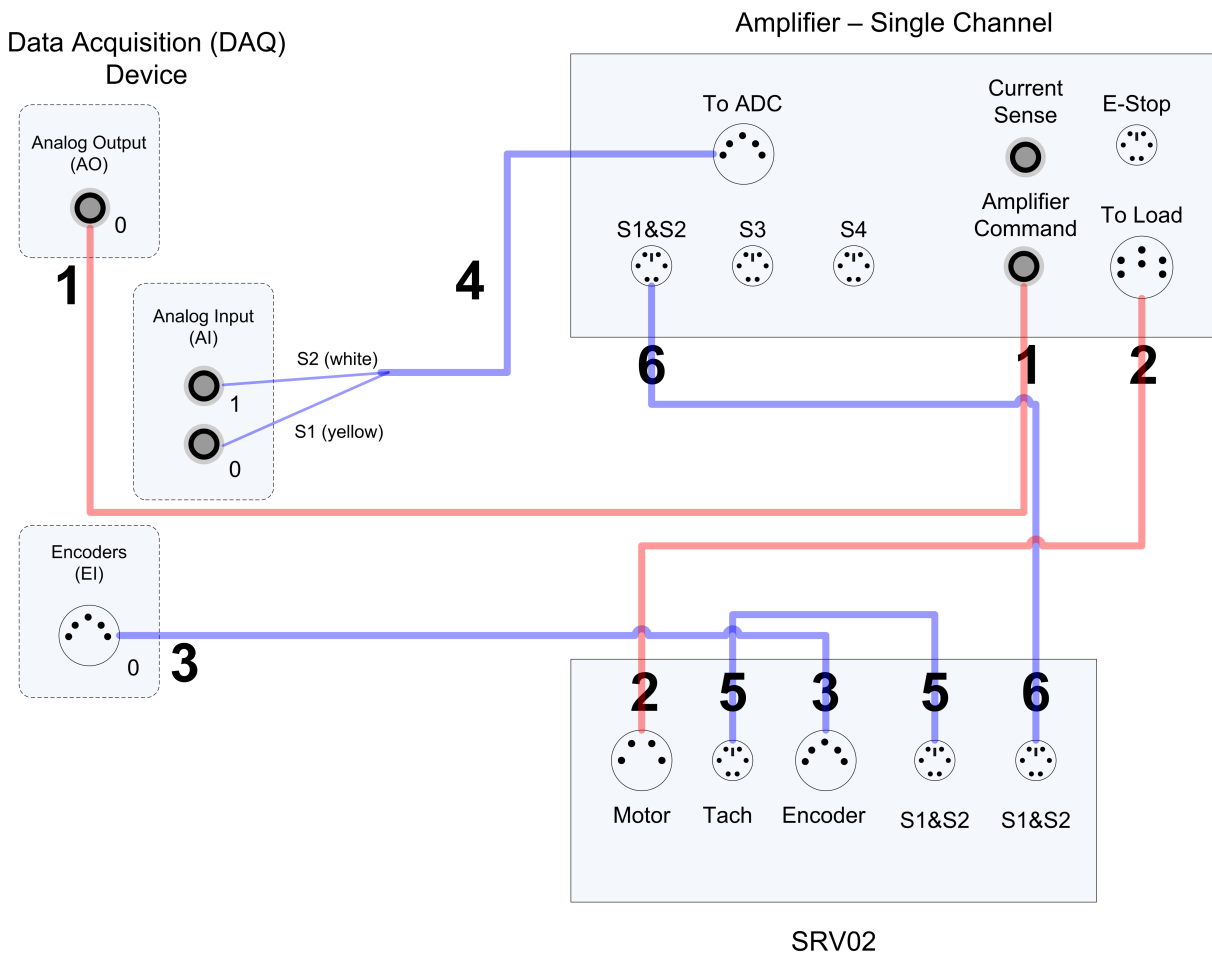

Figure 5.2: Connecting the SRV02 to a Single-Channel Amplifier and Two-Channel DAQ
This section describes the typical connections used to connect the SRV02 plant to a data acquisition device and a power amplifier. The connections are summarized in Table 5.3, and pictured in Figure 5.2. Connection details are given below.
**Note:** The wiring diagram shown in Figure 5.2 is using a generic data acquisition device. The same connections can be applied for any data acquisition system that has least 2x analog inputs, 1x analog output, and 1x encoder input.